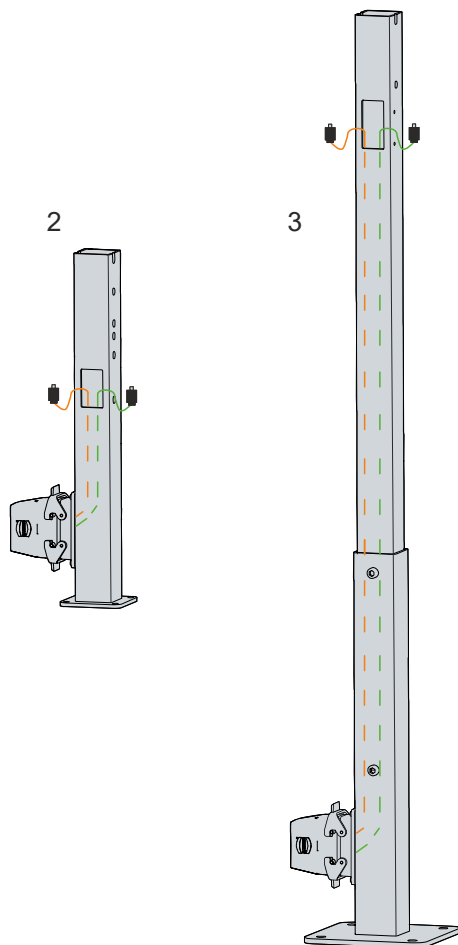

Fig. 12: Wiring CP32xx
When you mount the push button extension to the C9900-M803 (2) or C9900-M804 (3) mounting arm, the wiring runs through the mounting arms. At the foot of the mounting arms is the HAN connection socket with the HAN plug. From there, the power cables and Ethernet cables are fed through the mounting arms upwards to the opening (see Figure 12). Insert the plug connectors protruding from the mounting arm into the push button extension.